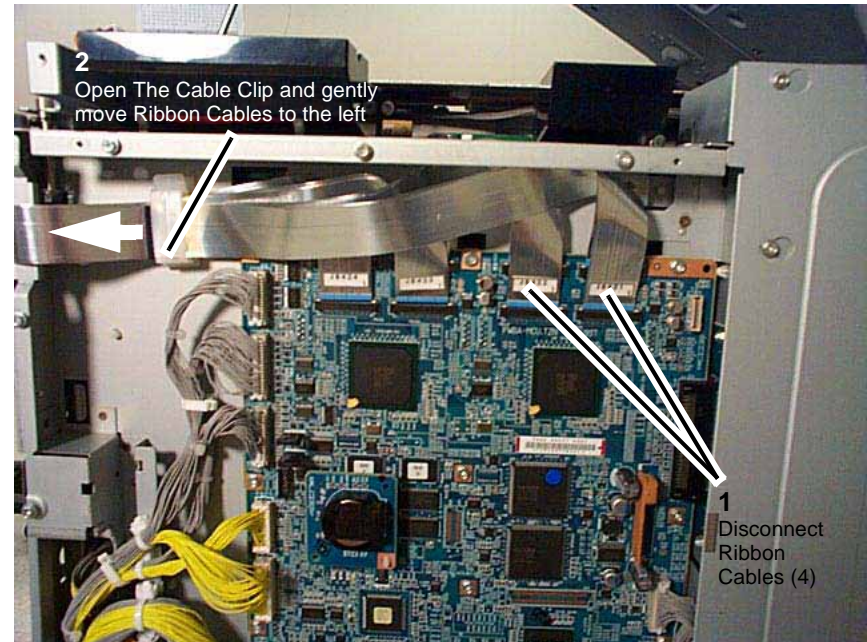

Figure 1 Disconnecting the Ribbon Cables on the MCU PWB
3. Loosen screws (11) and remove the MCU Cover (PL 11.1).
4. On the MCU PWB, disconnect Ribbon Cables and open Ribbon Cable clip (Figure 1).